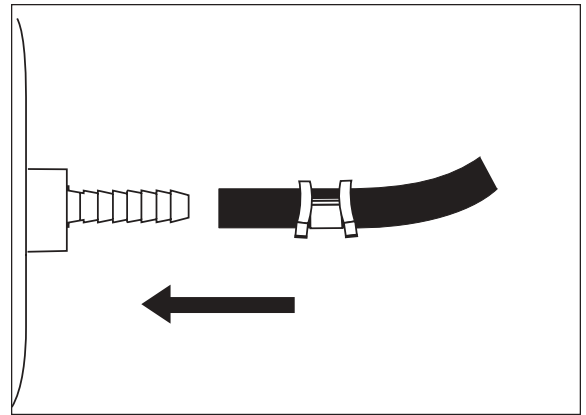

Figure 8
- g. Push the air line onto the stem of the air spring, covering all the barbs (Figure 8). With pliers slide the air line clamp upward until it fully covers the barbed section.
- e. Push the air line onto the stem of the air spring, covering all the barbed section. With pliers slide the air line clamp forward until it fully covers barbed section (Figure 8).